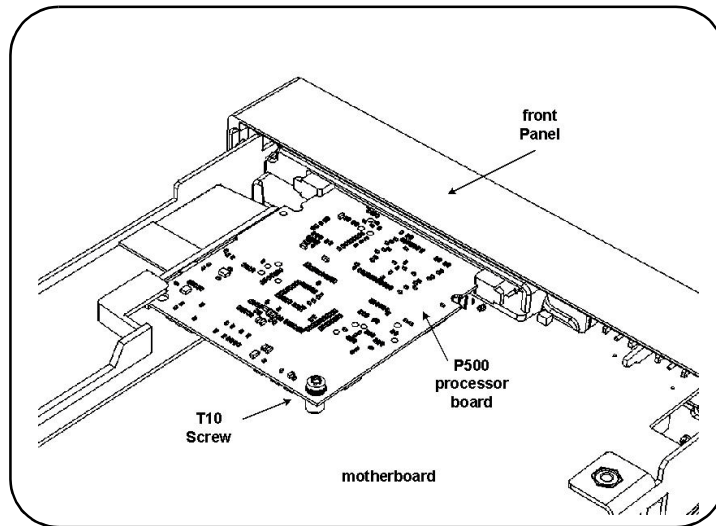

Figure 19. P500 Processor Board.
2. Turn the chassis upside down. On the bottom of the motherboard, remove the T10 TORX screw that secures the smaller P500 Processor board to the motherboard (see Figure 19; for illustration purposes only, the P500 board is shown with plastic support bracket removed).